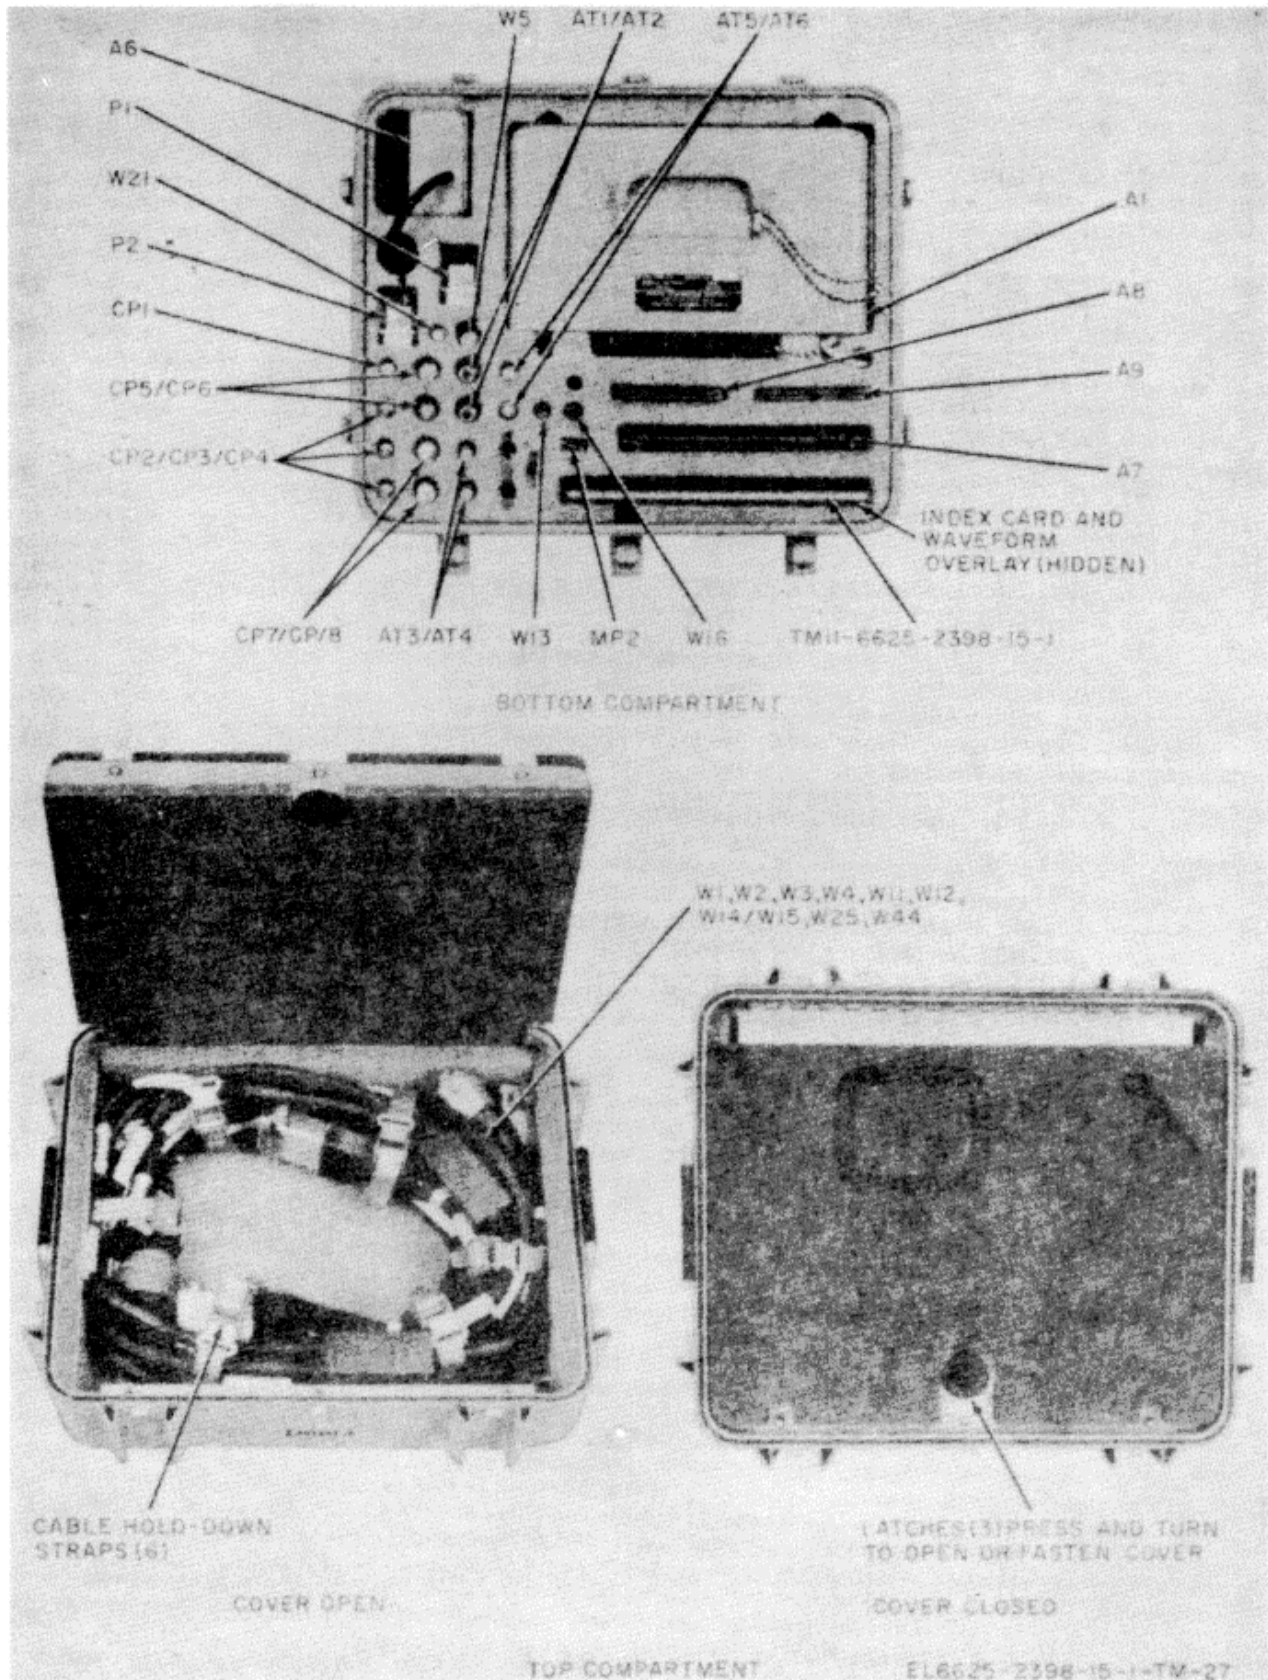

Figure 1-1. Test facilities set AN/TPM-24(V)1
a. This manual describes Test Facilities Set AN/TPM-24(V)1 (fig. 1-1) and provides Instructions for installation, use, and maintenance. It includes Instructions for cleaning, inspection, troubleshooting, testing, calibration, repair and replacement. It also lists tools, materials, and test equipment required for maintenance. A functional analysis of the equipment is also covered.